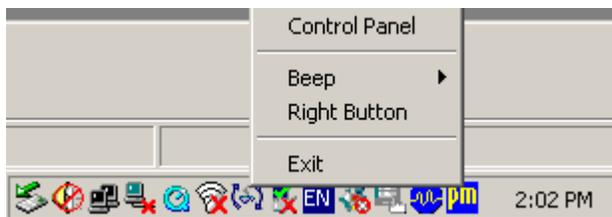

Figure 3-7: PenMount Monitor Popup Menu
Step 3: Click the icon. A pop up menu appears. See **Figure 3-7**.
Step 4: Click Control Panel in the pop up menu shown in **Figure 3-7**.